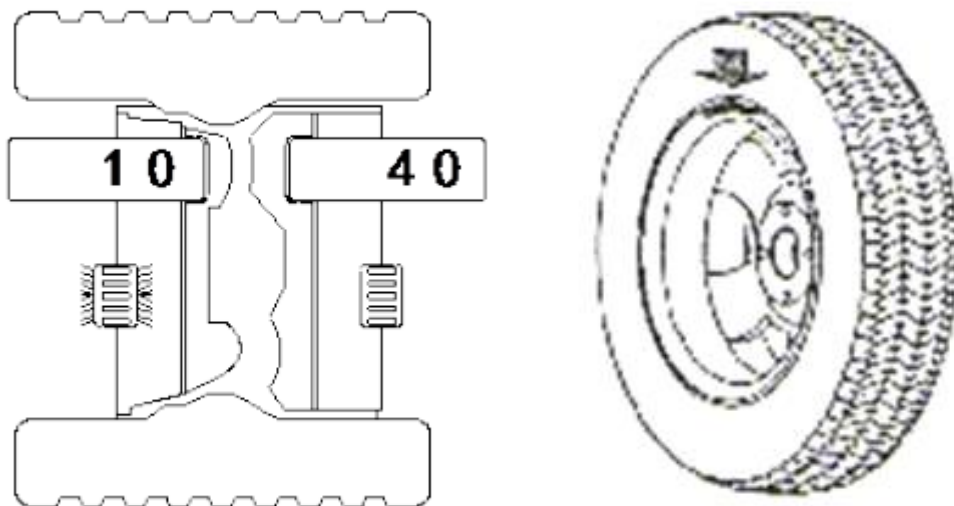

Figure 2.
6. Turn the wheel anticlockwise slowly and the indicators 2 and 4 will illuminate. Once an indicator is fully illuminated, lead can be placed on the rim alongside the illuminated indicator, in this case indicator 3 (inside of the rim). The lead should be posted on the inside of the rim at 12 o'clock on the upper side the rim. See figure 2: